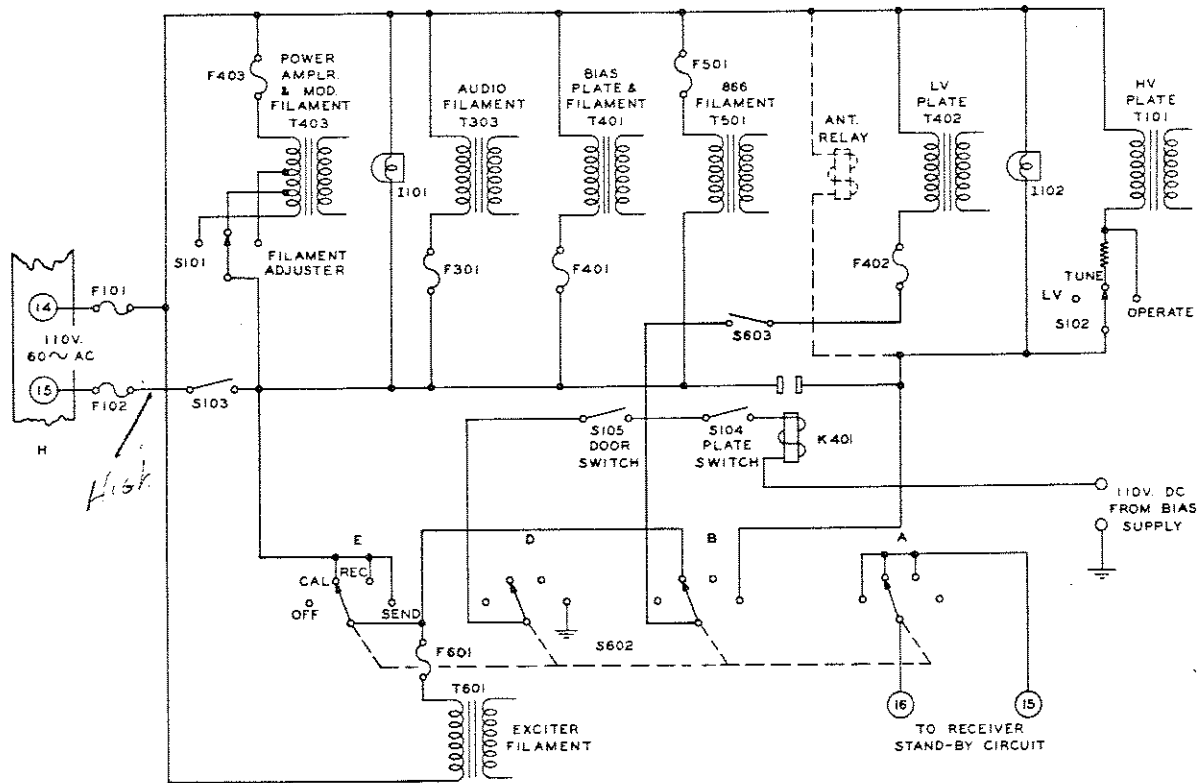

Figure 2-1 Primary Power Circuits
2.2.2. PRIMARY POWER CIRCUITS. - Refer to figure 2-1. The filament transformers T303, T403, T501 and T601 and the bias supply transformer T401 are energized when the FILAMENT switch S103 is closed. Each of the above transformers is protected by a fuse. The primary adjustment taps on filament transformer T403 are brought out to a tap switch S101 which is used to adjust the filament voltage to the PA and modulator tubes. High voltage plate transformer T101 is energized by the operation of plate power relay K401 which is operated when the PLATE switch is closed. Since operating voltage for the plate power relay coil is obtained from the bias power supply, the primary power cannot be applied to the high voltage transformer until the bias supply is operating thus preventing applying plate power to the power amplifier and modulator tubes when there is no fixed bias. A door switch, S105, operated by the rear access door also interlocks the high voltage power supply to prevent accidental shocks; however, since this unit operates with voltages which are extremely dangerous to life, interlock switches should not be depended upon when working on the unit, rather, completely disconnect the primary source of power by means of a conveniently located main power switch.